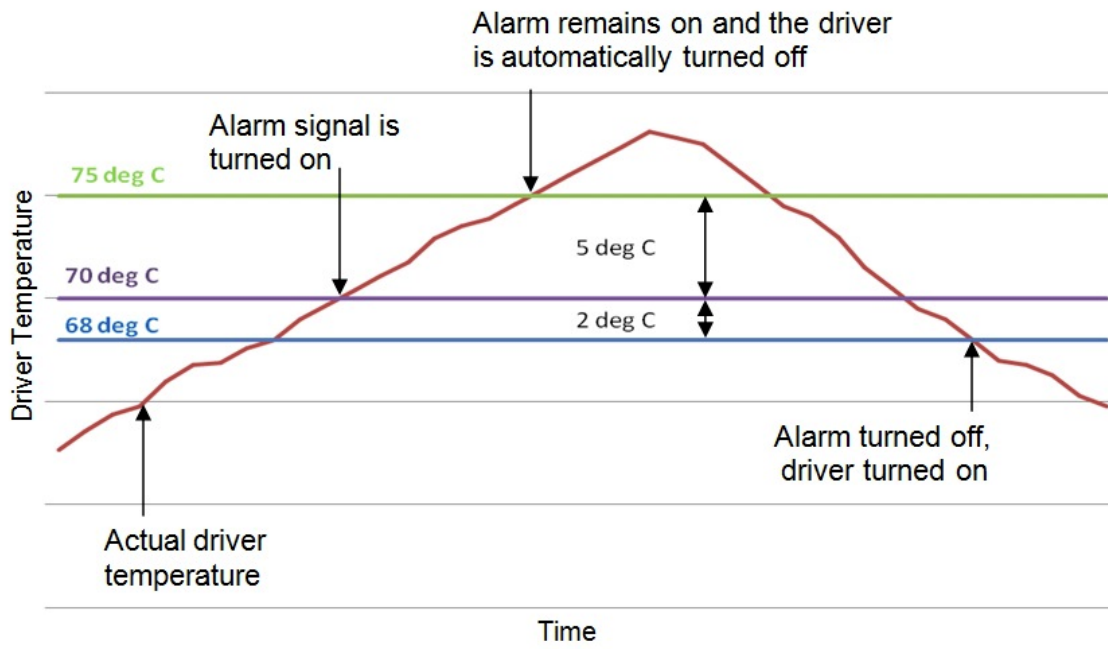

Figure 5.0
ACE-SDX has a temperature sensor to detect over heating of the driver. Temperature sensing is done only when the driver is enabled. When the temperature goes over the over-temperature alarm value of 70°C, the Alarm Output is turned on. If the temperature goes below 68°C, the Alarm Output is turned off. If the temperature goes over 75°C, the driver is automatically turned off and will remain off until the temperature goes below 68°C. See Figure 5.0 below for a graphical representation of the over-temperature alarm function.
7. **Over Temperature Shutdown:** Determines whether or not the ACE-SDX disables when the temperature rises above a specified threshold. See Figure 5.0 for details.